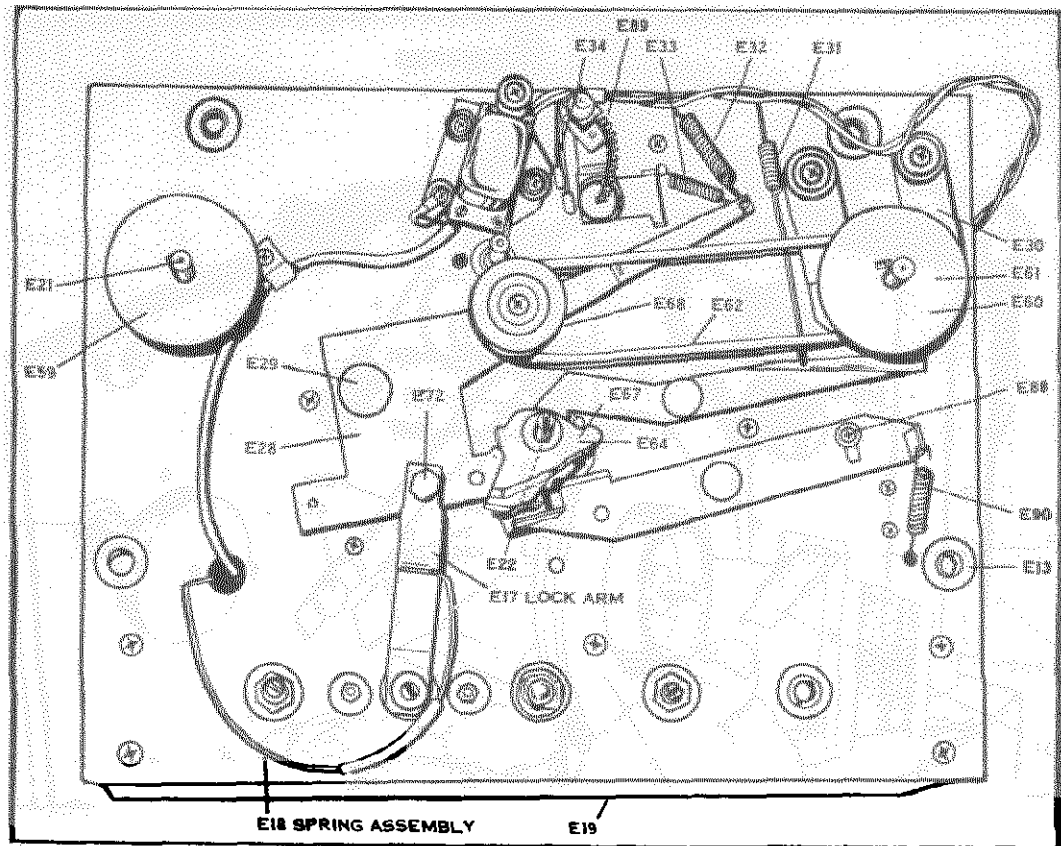
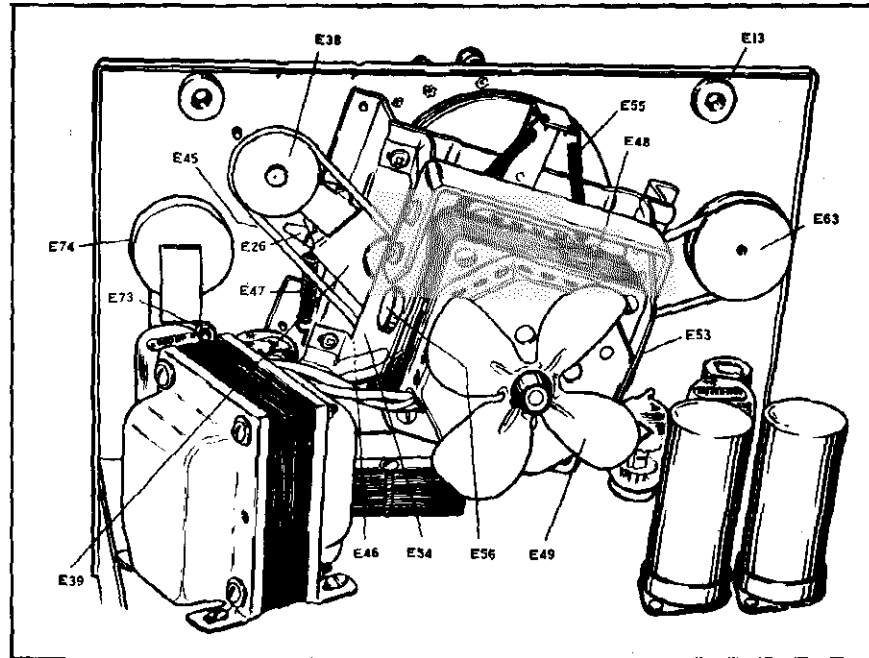

Figure 4. Top Plate of Chassis with Top Plate Removed
Figure 6. Operating Mechanism
The FORWARD take-up spindle drive belt is located under the top plate, figure 4. Remove the top plate, paragraph 9. Loosen set screw in fast forward drive pulley, figure 6, and remove reel shaft assembly. Remove pulley assembly and work belt over pinch roller.
Clean and lubricate bearing and shaft with light machine oil. Work new belt over pinch roller; then reassemble reel shaft, FORWARD drive pulley and FAST FORWARD drive pulley. With control knob in FORWARD position, tighten FAST FORWARD drive pulley set screw E63, figure 6, at point where there is 0.010 to 0.015 inch clearance between pulley and bearing.
Removal of the top plate is required for access to the operating mechanism, figure 4. This plate is rubber mounted on the mechanism mounting plate and held in place by four screws and large washers installed from the back of the chassis. Remove the fuse holder cover, and pull off the VOLUME and TONE control knobs. The selector knob and control knob each have a socket head set screw which must be loosened before removing the knob. Remove the cover over the pressure pads; then remove the retaining ring, tension washer and lift off the pressure pad assembly. Remove the top plate attaching screws and washers, and carefully work the top plate off the rubber mounts. Whenever the top plate is removed, clean and lubricate the mechanism, paragraph 7, and check its action. Replace the top plate with the attaching screws, washers and lockwashers. The lower right hand screw (from rear) also attached the grounding strap.
When installing a new flywheel, check fit in bearings carefully and be sure bearing is snug in mount. If bearing fit is sloppy or binds, replace the bearings. After the flywheel and bracket are reinstalled, check for free operation while rotating before turning or motor. If flywheel is tight, tap flywheel to align bearings. Connect motor springs, fast forward spring and rewind belt. Check operation on REWIND, STOP, FORWARD and FAST before completing reassembly, paragraph 14. Be sure fast forward drive is in proper position before attaching springs, see figure 6
The record lock arm, E17, figure 4, interlocks RECORD position of the selector knob in FORWARD position only. It is an indexing arm which automatically returns selector knob to PLAY position when
If a new PLAY-RECORD switch or record lock has to be installed, position the record lock arm as instructed in the previous paragraph, then with the cone point set screw removed, drill a 1/32 inch indentation in the switch shaft with a No. 38 drill. Install the spring as shown in figure 4. Check operation by turning control knob to STOP. The record lock arm should move counterclockwise and turn selector knob to PLAY position.
On record lock arm assembly, E17, figure 4, loosen adjusting screw in slot of arm and adjust steel ball in hole in pinch roller lever in record position and tighten screw.
The top plate must be removed to adjust the lift lever clearance, paragraph 9. Place control knob in FORWARD position and turn adjusting screw, E88, figure 4 holding lock nut, E73, figure 6, until clearance between lever and ball in pulley is 1/16 to 1/32 inch. Turn control knob to REWIND position and check to be sure lever lifts take-up spindle. Hold adjustment screw in position with a screw driver from the top and tighten the lock nut.
a. FAST FORWARD position - the fast forward drive belt should engage the motor drive pulley and fast forward drive pulley, E38, with kick out lever, E26, clear of fast forward plate and pulley assembly, E39, figure 6. The trip pin on the fast forward drive mechanism should engage the brake trip of the trip assembly passing beyond the "dog" of the brake trip not exceeding 1/16 inch. This prevents over-run or looping of the tape in going from "Fast Forward" to "Forward." To correct any misalignment of above, loosen the four mounting screws and with all springs attached and mechanism in "Fast Forward" position, make adjustments by shifting motor bracket in slotted mounting holes. After proper adjustment is made, hold bracket in position and tighten the four mounting screws.
Spindles can be replaced by loosening set screws in the drive pulleys on the bottom. Replace the brake yoke assembly, E30, figure 4, when pads are worn or otherwise ineffective. The assembly is held in place by two rubber mounts and screws and is easily replaceable. Refer to paragraph 8 for adjusting.